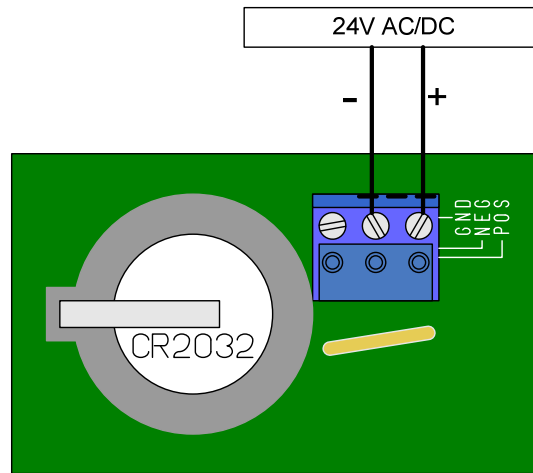

Figure 3: TELSEC[®] ESB Connector for Low Voltage Connection
Step 7: Connect the low voltage 24VAC power from the power supply’s 40VA output to the TELSEC[®] ESB input power connector using 18AWG minimum stranded wire (Figure 3).